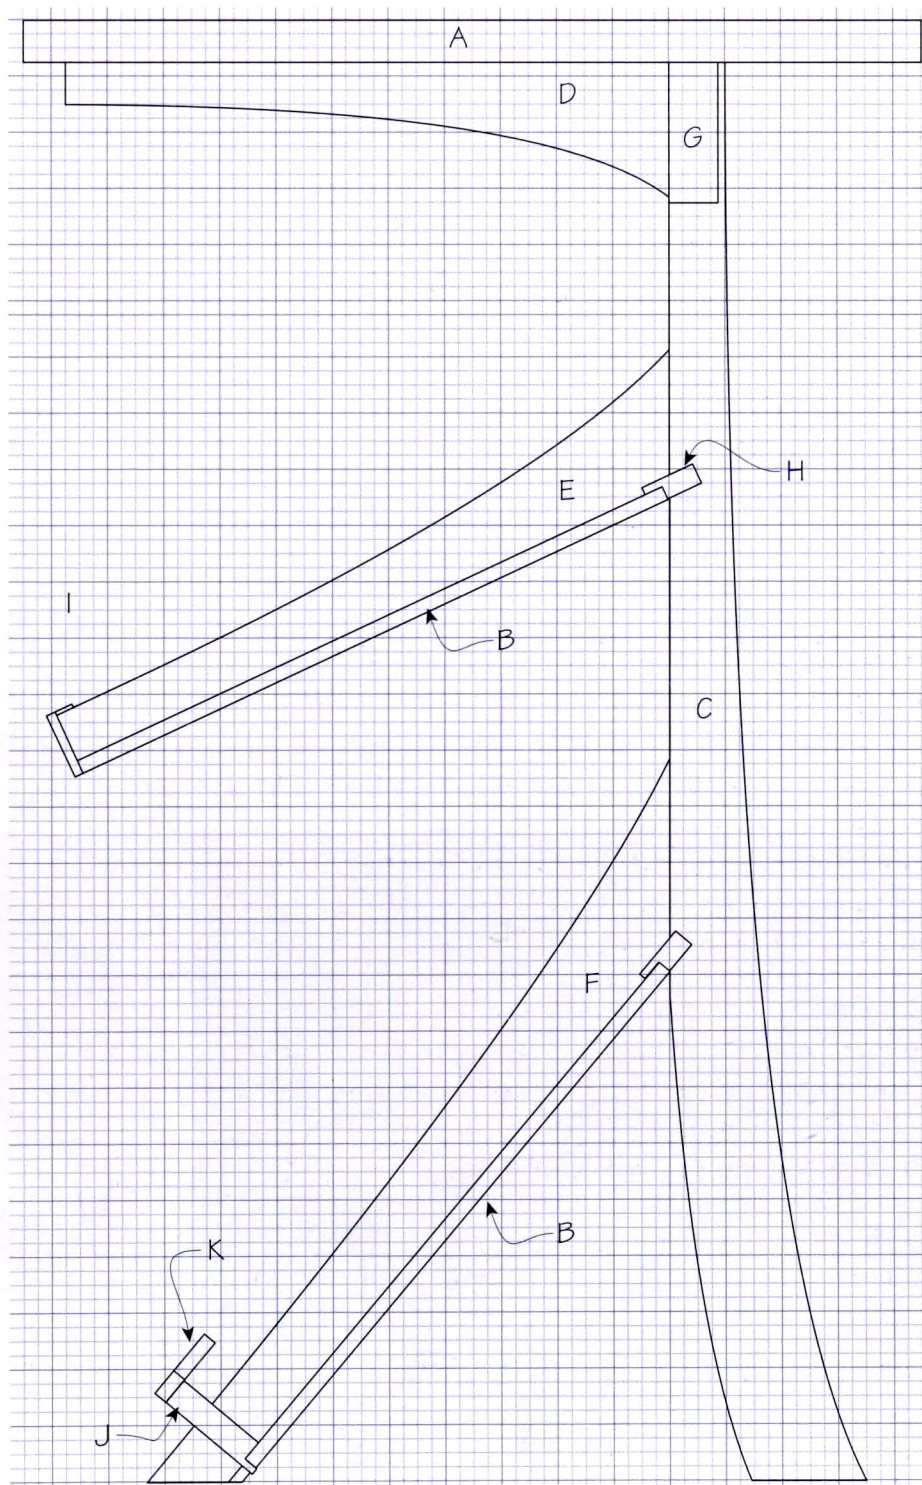

Figure 1
You should draw a full-size version of figure 1. (See Fair Curves and Patterns on page 12 for help.) This will allow you to position the side pieces accurately.
1. Flatten, thickness, joint, and rip material for the back frames (H), the middle and lower lips (I and J), and the lower front (K).
2. The pieces surrounding the $\frac{1}{4}$ " plywood panels all get $\frac{1}{4}$ " x $\frac{3}{8}$ " rabbets on their lower inside corners to house the panels. Consult figure 1 to make sure you understand the orientation of each rabbet in pieces E, F, H, I, and J. These may be cut on the table saw or with a ball-bearing-guided $\frac{3}{8}$ " rabbet bit in a router table. In the latter case, use a split fence, especially with the thinner pieces. Use the edge of a panel to gauge the depth of the rabbet. It should be very